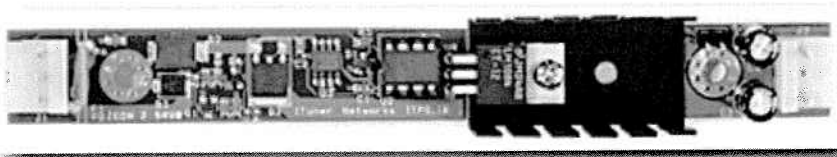

FIGURE 12-8: Mini-Box ITPS auto power sequencer and low-dropout regulator.
- The Mini-Box ITPS auto power sequencer and low-dropout regulator, for enabling your Car PC to turn on and off properly when the car's ignition is switched (~\$40, see Figure 12-8). Make sure you purchase the one appropriate model for your processor and motherboard type (see www.mini-box.com for details).